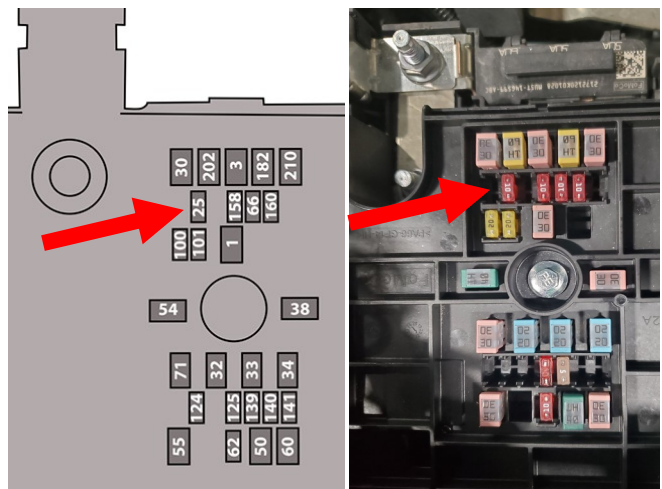

Figure 13.
**13.** Remove the engine fuse block cover located on the driver side of the engine bay. Remove the 10 amp fuse from slot #25. See figure 13 for more detail.